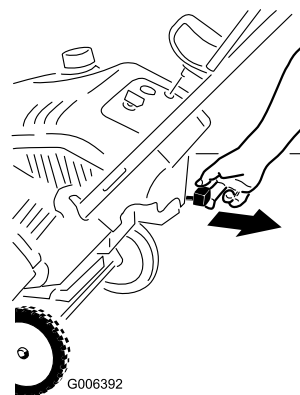
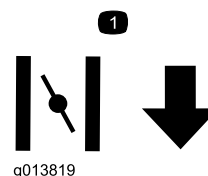

Figure 14
Figure 15
2. Pull out the choke lever (Figure 14 and Figure 15).